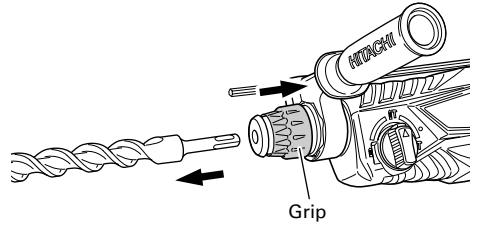

Fig. 2
- (3) Check the latching by pulling on the drill bit.
- (4) To remove the drill bit, fully pull the grip in the direction of the arrow and pull out the drill bit (Fig. 2).